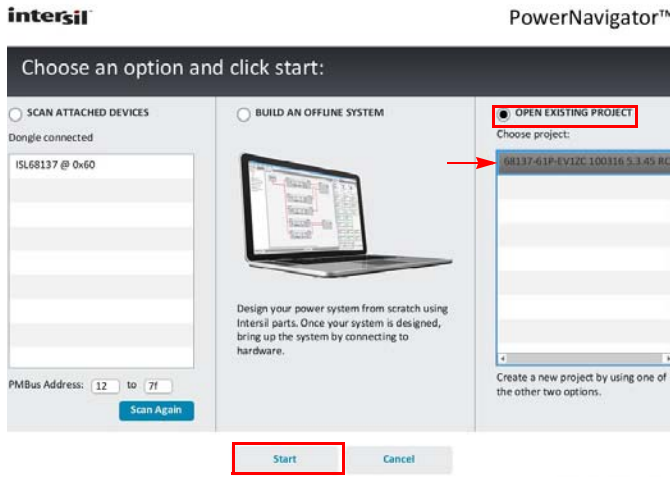

FIGURE 5. LAUNCH PowerNavigator™
6. Launch PowerNavigator™. Device should be discovered by PowerNavigator™. Select “Open Existing Project” (Figure 5).